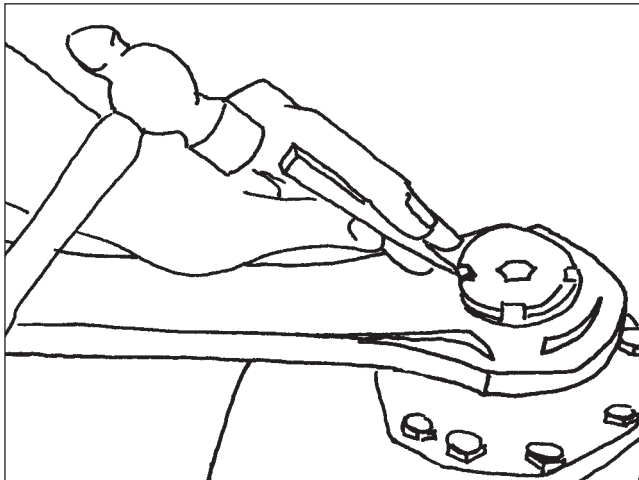

Figure 60
11. Use the tapered punch and hammer to lock the restraining tabs into the retainer (Figure 60).